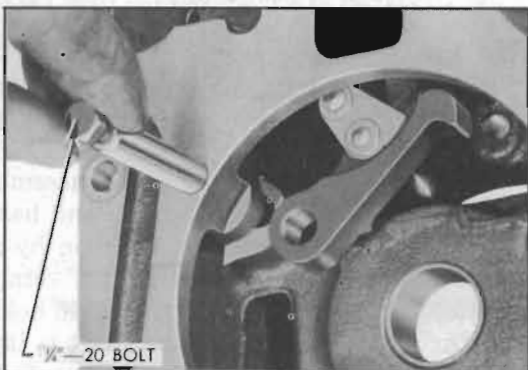

Figure 4-120—Removing Lock Pawl Shaft
4. Screw a $\frac{1}{4}$ "-20 bolt into the parking lock pawl shaft and pull the shaft from rear bearing retainer, allowing end of pawl to swing free. See figure 4-120.